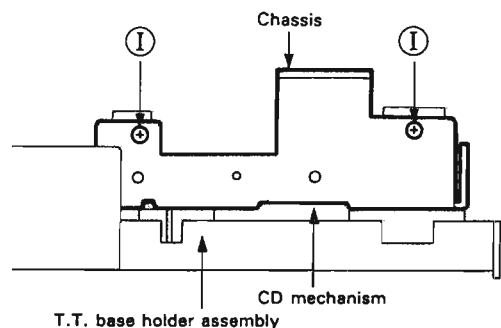

Fig. 11
3. From the CD changer mechanism assembly, remove the 2 screws  $\textcircled{I}$  securing the CD mechanism. (Refer to Fig.11)